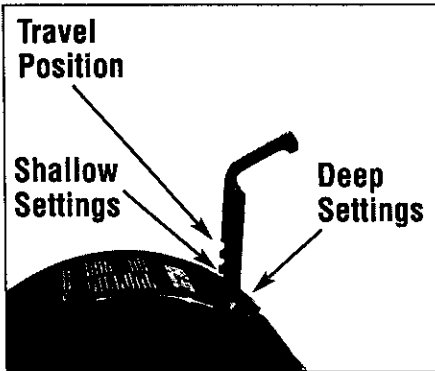

Figure 3-5: Depth Regulator Lever.
This lever controls the depth that the tines penetrate the soil (see Figure 3-5). Adjust the lever to change tilling depth by pulling back on it and moving the lever up (for deeper tilling) or down (for shallower tilling).
2. With the tiller on level ground, pull the Depth Regulator Lever (Figure 3-5) back and then all the way up until the lowest notch in the lever is engaged. The tines must be in con-